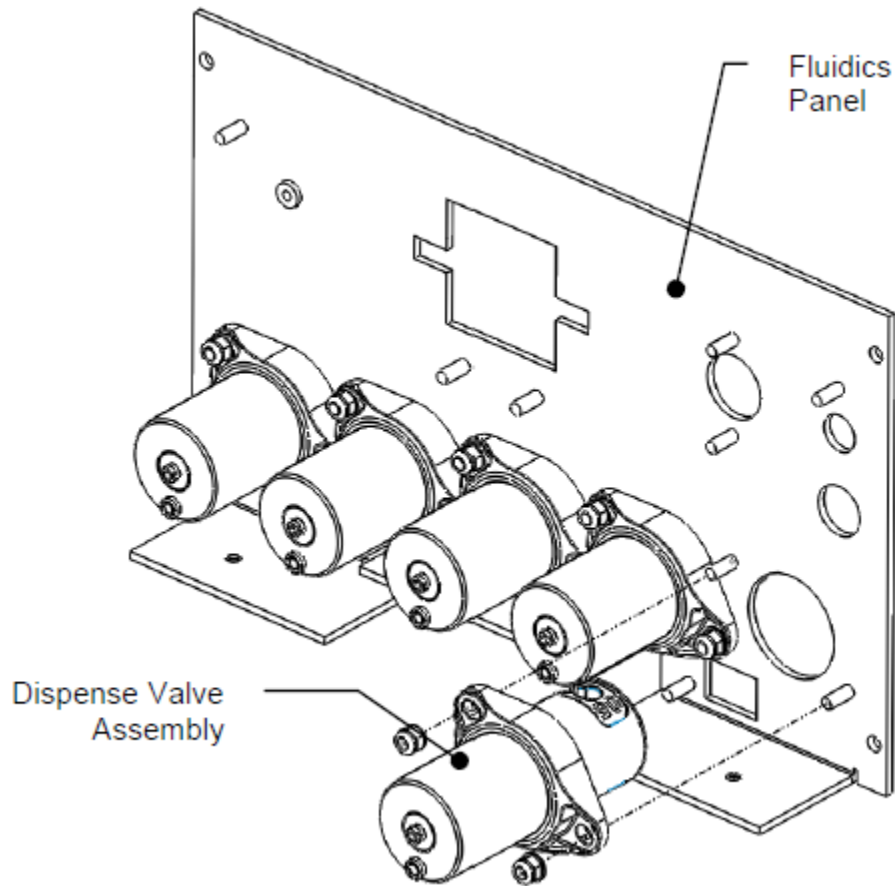

Figure G-9: Replacing a Dispense Valve Assembly
1. Remove the M3 Nyloc Nuts connecting the valve as shown in Figure G-9.